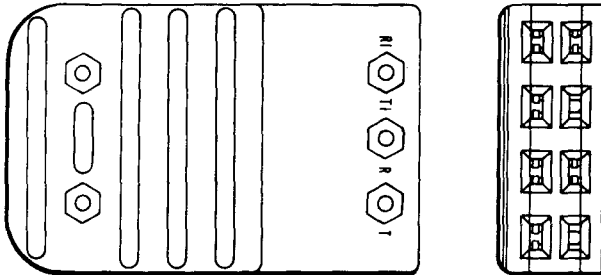

Fig. 11—511A or B Plug
2.10 511A and B: The 511A and B plugs (Fig. 11) consist of a molded plastic body with two molded plastic covers containing six contact assemblies. The 511A and B plugs are used in service observing the 4-wire Electronic Switching System (ESS).